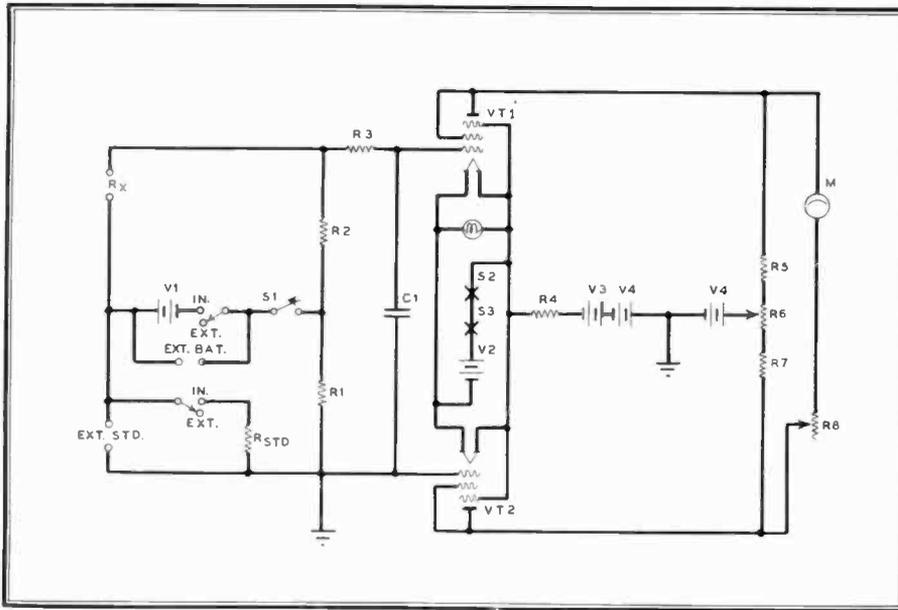

FIG. 2. COMPLETE CIRCUIT OF THE DIRECT-READING RESISTANCE LIMIT BRIDGE
**Circuit Data** ★ The four batteries shown in Fig. 2 are: